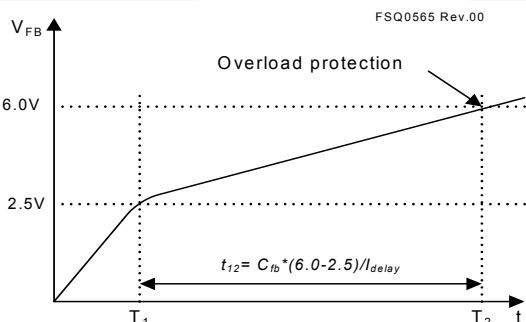

Figure 30. Overload Protection
**4.1 Overload Protection (OLP):** Overload is defined as the load current exceeding its normal level due to an unexpected abnormal event. In this situation, the protection circuit should trigger to protect the SMPS. However, even when the SMPS is in the normal operation, the overload protection circuit can be triggered during the load transition. To avoid this undesired operation, the overload protection circuit is designed to trigger only after a specified time to determine whether it is a transient situation or a true overload situation. Because of the pulse-by-pulse current limit capability, the maximum peak current through the SenseFET is limited, and therefore the maximum input power is restricted with a given input voltage. If the output consumes more than this maximum power, the output voltage ( $V_O$ ) decreases below the set voltage. This reduces the current through the opto-coupler LED, which also reduces the opto-coupler transistor current, thus increasing the feedback voltage ( $V_{FB}$ ). If  $V_{FB}$  exceeds 2.5V, D1 is blocked and the 5 $\mu$ A current source starts to charge  $C_B$  slowly up to  $V_{CC}$ . In this condition,  $V_{FB}$  continues increasing until it reaches 6V, when the switching operation is terminated, as shown in Figure 30. The delay time for shutdown is the time required to charge  $C_{FB}$  from 2.5V to 6V with 5 $\mu$ A. A 20 ~ 50ms delay time is typical for most applications.